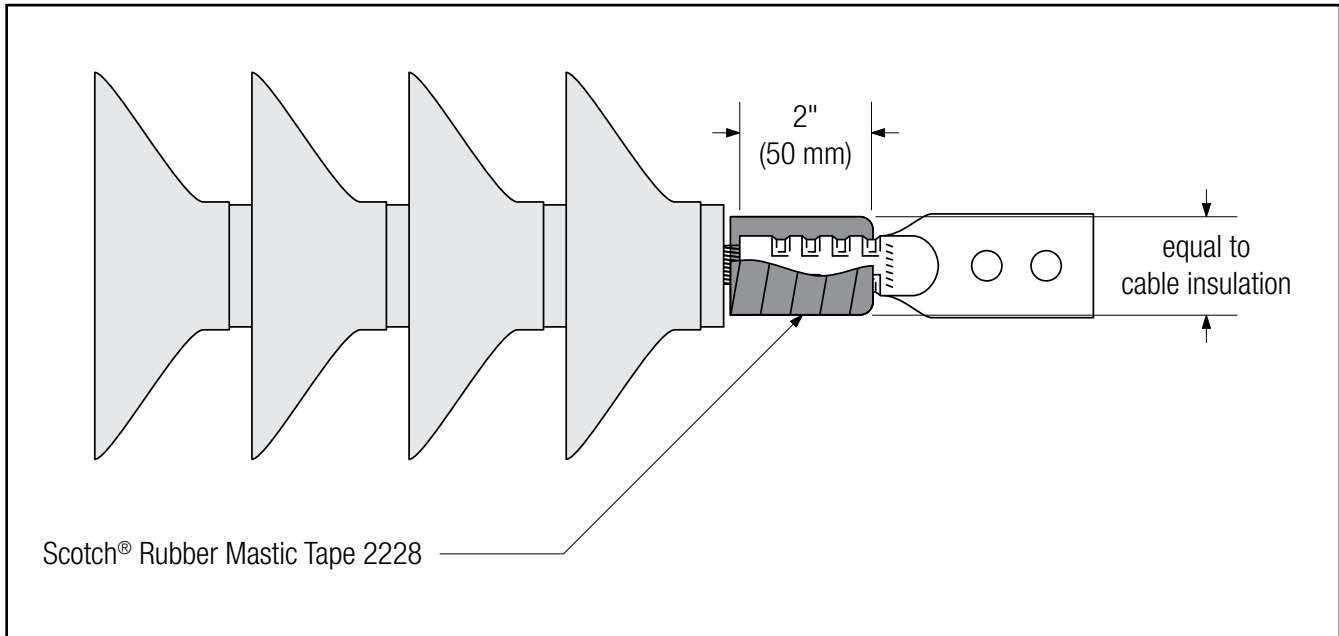

Figure 26
- 7.2 Wrap Scotch® Rubber Mastic Tape 2228 half-lapped over the lug barrel and insulation/lug gap, building to a diameter equal to the cable insulation. Cover 2" (50 mm) of the lug barrel. (*Figure 26*)